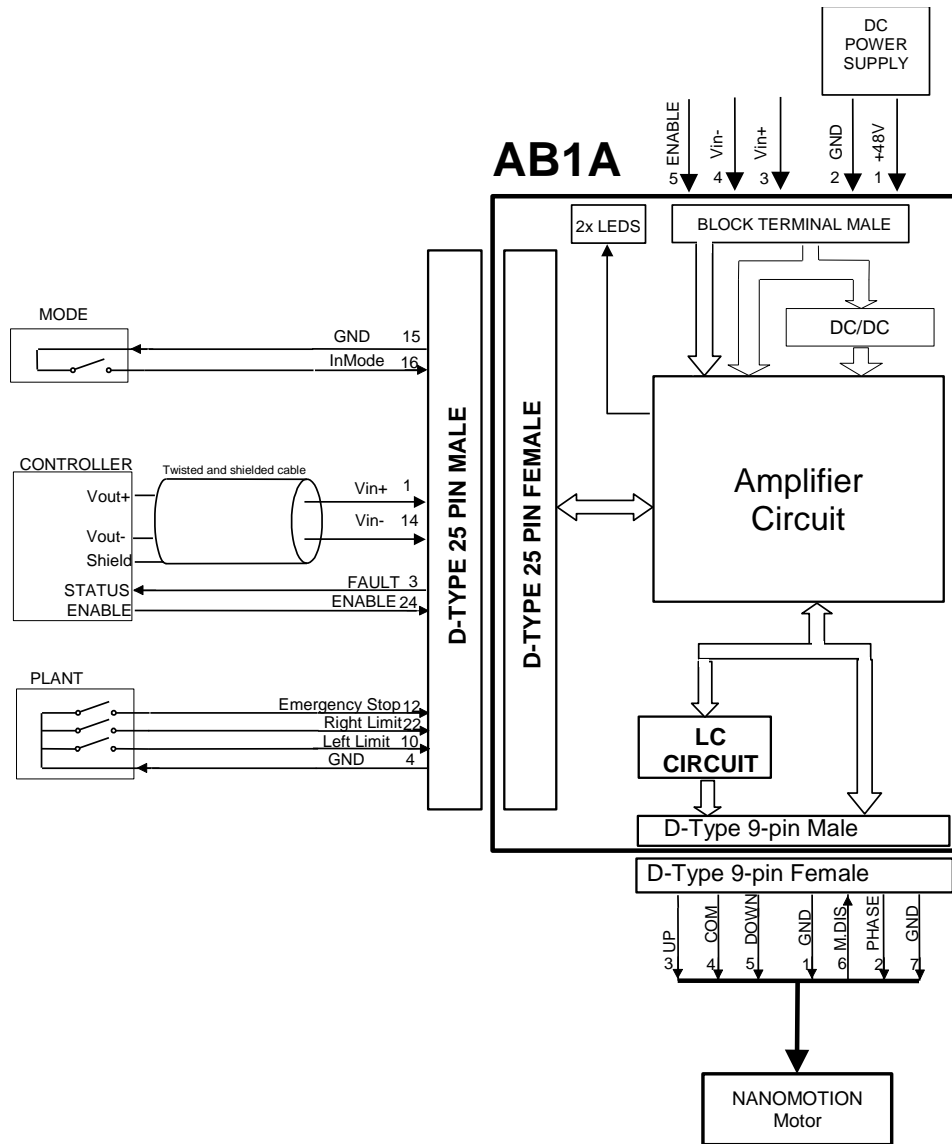

Figure 4: Differential Analog Input Connection
- Differential connection (see Figure 4)